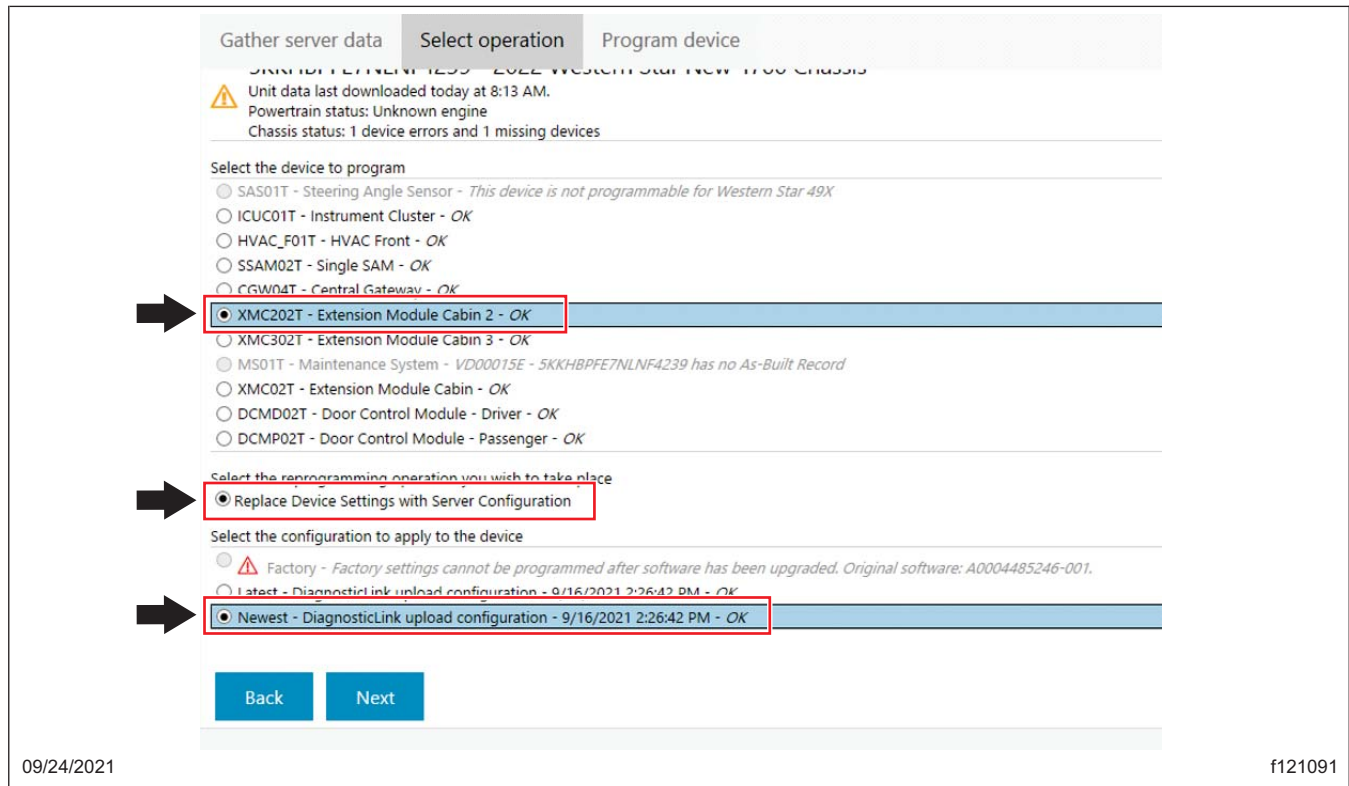

Fig. 8, Programming an ECU
8. Select the XMC ECU to program. For example, **Fig. 8** shows XMC2 (XMC202T) selected.
9. Select 'Replace Device Settings with Server Configuration,' and 'Newest,' then select the 'Next' button. See **Fig. 8**.